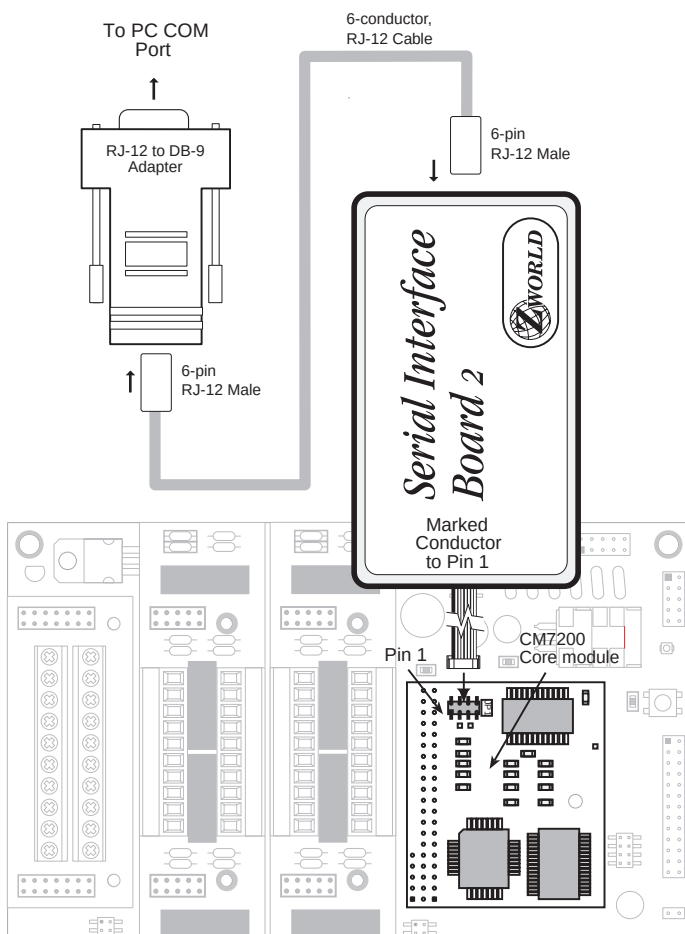

Figure 2-2. SIB2 Connection (BL1700 Top View)
3. Plug the SIB2's 8-pin connector onto header JP1 located on the CM7200 core module (mounted on the BL1700), as shown in Figure 2-2. Make sure that pin 1 on the ribbon cable connector (on the striped side) matches up with pin 1 on JP1 (indicated by a small white circle next to the header).
Observe the polarity of the cable and the 8-pin connector. Attach the connector to JP1 exactly as shown in Figure 2-2.